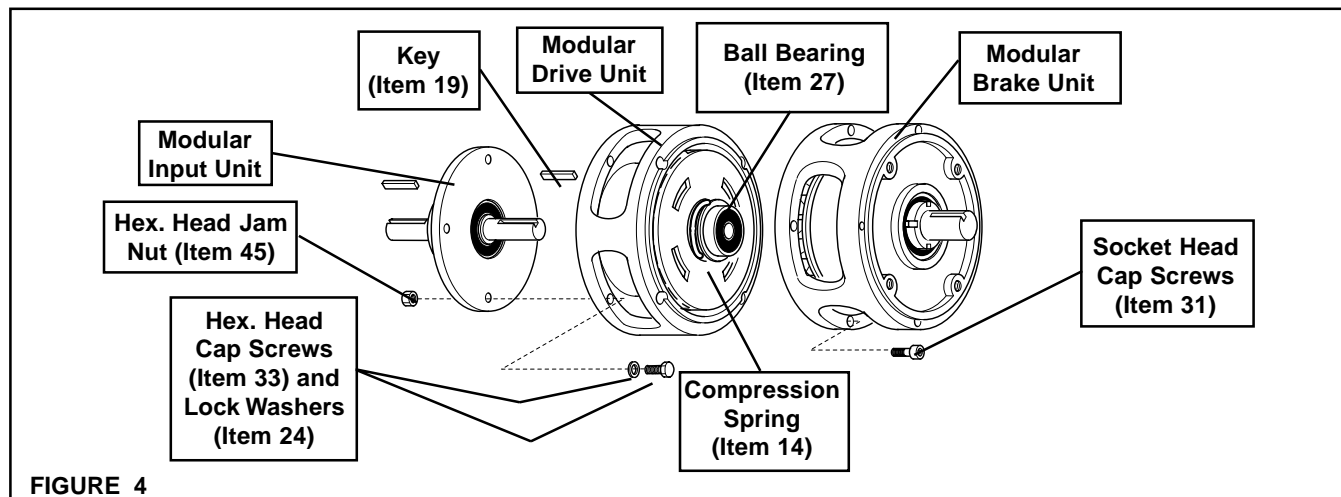

FIGURE 4
1. Place the Modular Drive Unit (MDU) on a table with the Ball Bearing (Item 27) facing up and properly seated against the Retaining Ring on Models 625, 875, and 1375 or against the Hub on Model 1125 (See Figure 4).
2. Set the Modular Brake Unit (MBU) onto the MDU, making sure the Ball Bearing (Item 27) is fully seated into the bore of the MBU (See Figure 4).
3. Rotate the MBU until the four clearance holes are aligned with the four MDU tapped holes (See Figure 4).
4. Press the MBU down against the Compression Spring (Item 14) until the faces of both units are flush (See Figure 4).
5. Using the four Socket Head Cap Screws (Item 31), secure the MBU to the MDU (See Figure 4).
6. Alternately and evenly tighten the four Socket Head Cap Screws (Item 31) to 50 Ft. Lbs. [69 N•m] torque (See Figure 4).
7. Place the Key (Item 19) into the shaft of the Modular Input Unit (MIU); then, slide the MIU shaft into the MDU (See Figure 4).
8. Using the four Hex. Head Jam Nuts (Item 45), Hex. Head Cap Screws (Item 33), and Lock Washers (Item 24), secure the MIU to the MDU (See Figure 4).
9. Alternately and evenly tighten the four Hex. Head Jam Nuts (Item 45) to 20 Ft. Lbs. [27 N•m] torque (See Figure 4).